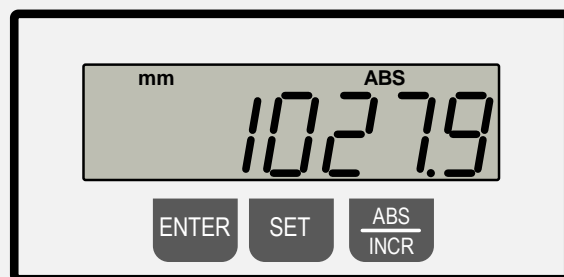

Figure 62: Display deviating from reference dimension
- Release both buttons and move the flip stop by hand until it has reached **the exact scale dimension of 1000.0 mm on the ruler**. In this example, a deviating value of 1027.9 mm is shown in the digital display (see ⇨ Figure 62).